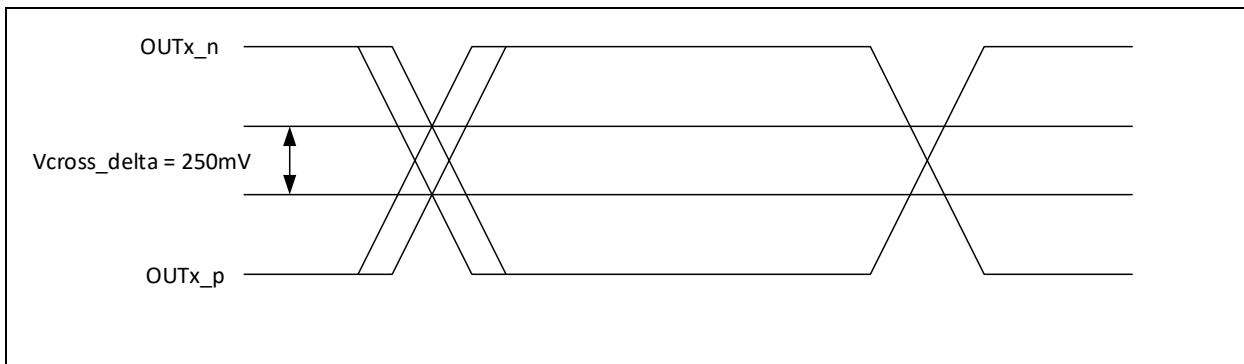
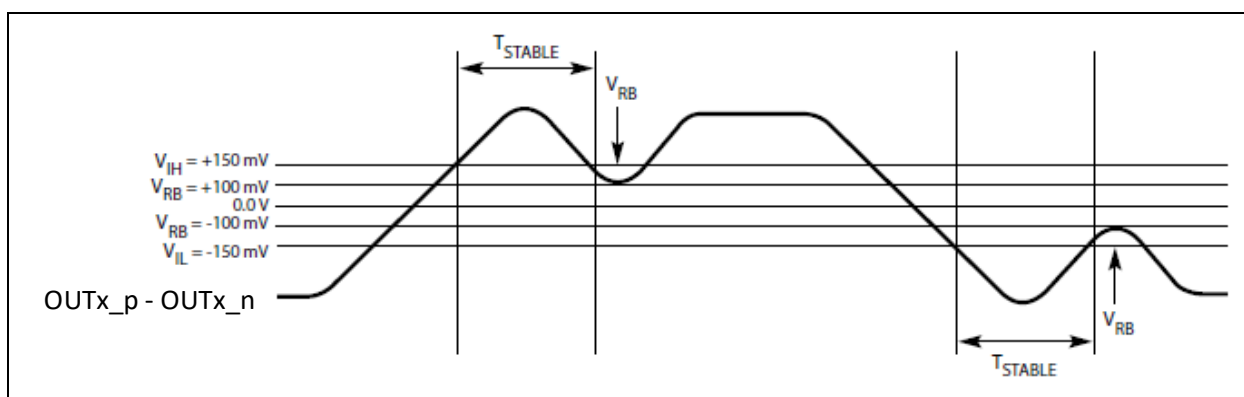

Figure 16. Single-Ended Measurement Points for Delta Cross Point
Figure 19. Differential Measurement Points for Ringback
(9) Defined as the total variation of all crossing voltages of Rising CK and Falling CK# This is the maximum allowed variance in V_{CROSS} for any particular system. See Figure 16.
(10) The PPM requirement from PCIe Express Base Specification, Revision 4.0 is related to clock generation devices. This requirement is not applicable to buffers because buffer's output frequency accuracy is identical to the frequency accuracy of the source driving the buffer.
(11) T_{STABLE} is the time the differential clock must maintain a minimum ±150 mV differential voltage after 20 rising/falling edges before it is allowed to droop back into the VRB ±100 mV differential range. See Figure 19.